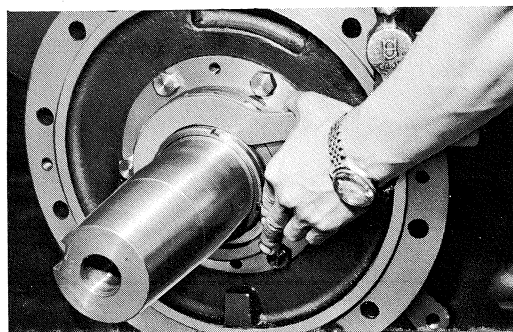

Fig. 60 Setting locknuts
b) Tighten the locknuts alternately, tapping the spanner handle with a hammer. (Fig. 60)